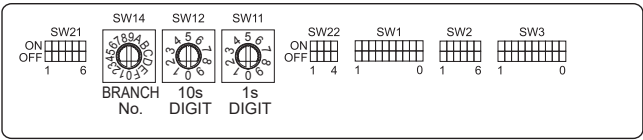

Fig. 4-9
4.6. Setting addresses (Fig. 4-9)
4.7. Sensing room temperature with the built-in sensor in a remote controller (Fig. 4-9)
4.8. Switch setting for high ceiling (Fig. 4-9)
4.9. Switch setting for i-see Sensor (Fig. 4-9)
4.10. Switch setting for horizontal airflow direction (Fig. 4-9)